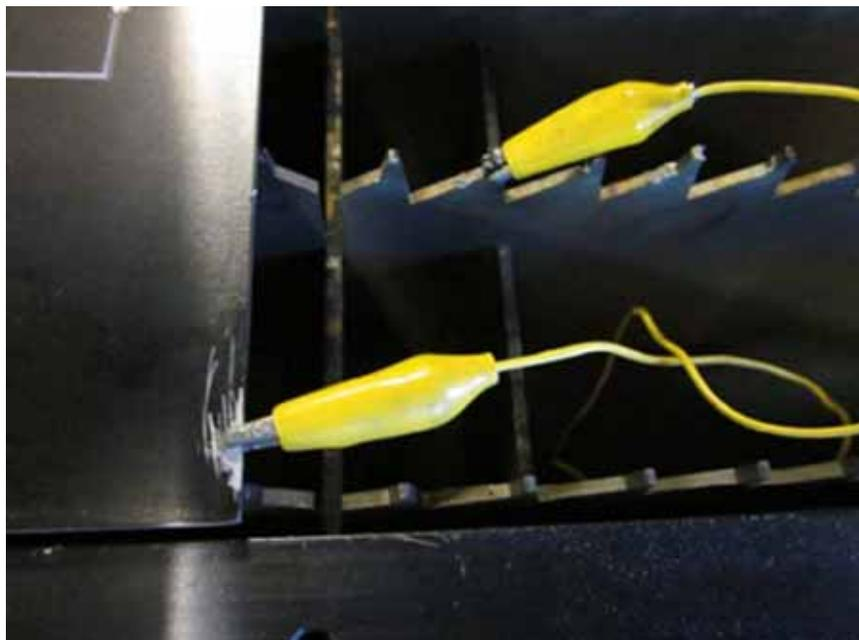

Figure 4-6. Clip Leads Attached to Anodized Material and Pallet
2. Attach a clip lead to the section of the material with the finish removed and attach the other clip lead to one of the pallet strips (See Figure 4-6).